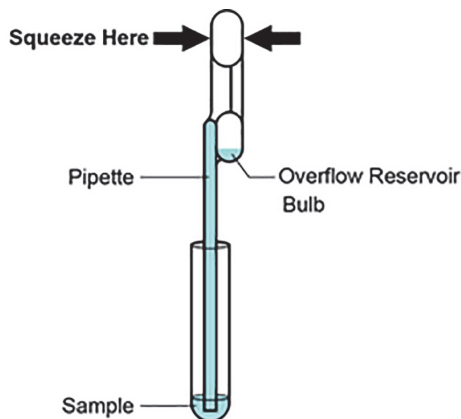

Figure 21. Transfer Pipette
15. Squeeze the top bulb of the transfer pipette **completely until the top bulb is fully flat**. While continuing to hold the bulb fully flat, place the pipette tip in the specimen transport tube (see Figure 21).
16. Keeping the pipette below the surface of the liquid, release the top bulb of the pipette slowly to fill the pipette with sample before removing from the tube. It is okay if liquid goes into the overflow reservoir (see Figure 21). Check that the pipette does not contain bubbles.